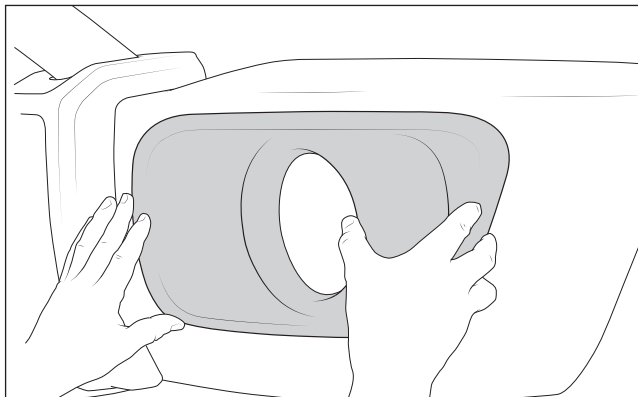

Figure 43
2. Carefully position the bezels on the bumper and press firmly. Use several strips of painter's tape to hold the bezel in place until the RTV cures (fig. 43).